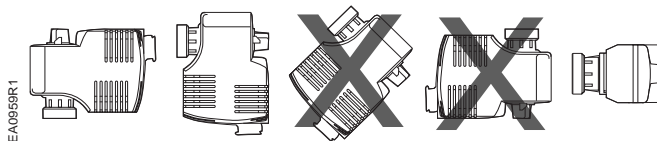

Figure 1. Mounting Position.
- Mount the actuator in one of the allowable positions shown in Figure 1.